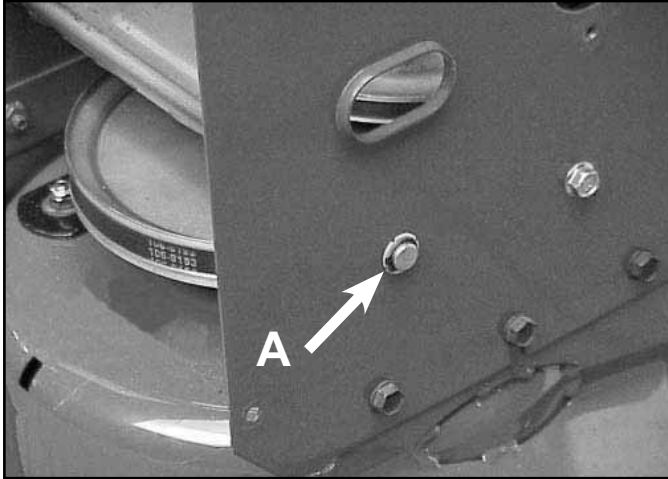

Fig 110
13. Remove the snap ring from both ends of the pulley pivot assembly shaft (Fig. 110). The nylon bushings can be removed now or when the pulley pivot assembly is removed.